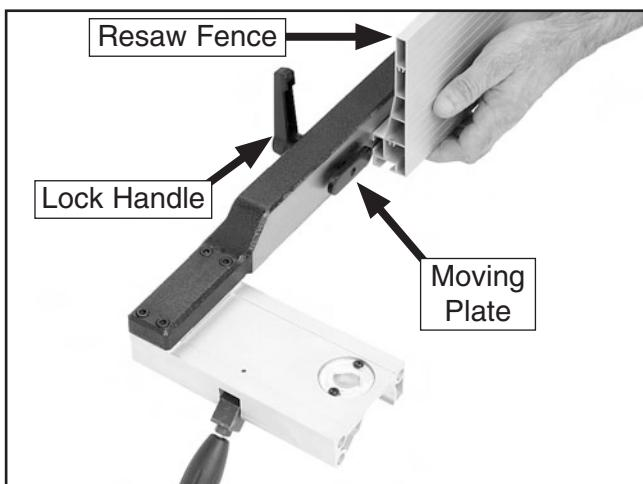

Figure 25. Attaching resaw fence to standard fence.
6. Slide the resaw fence over the moving plate, as shown in **Figure 25**, so the moving plate fits inside the channel of the resaw fence.